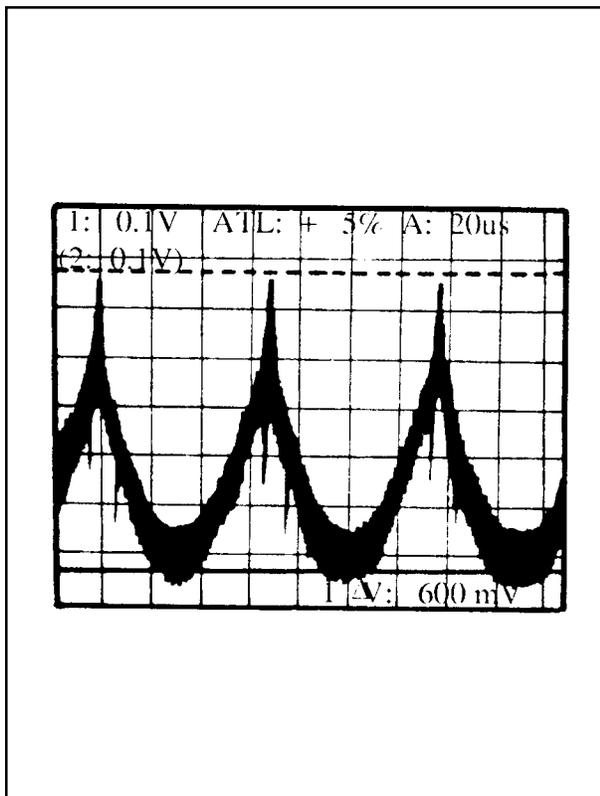

Figure 5-7.
4. To obtain the proper signal, first adjust the oscilloscope to 20 microseconds at 100 MV/Division and then **set Horizontal (R38) for 600 Millivolts (.6 Volts) peak-to-peak.** Refer to Figure 5-7.